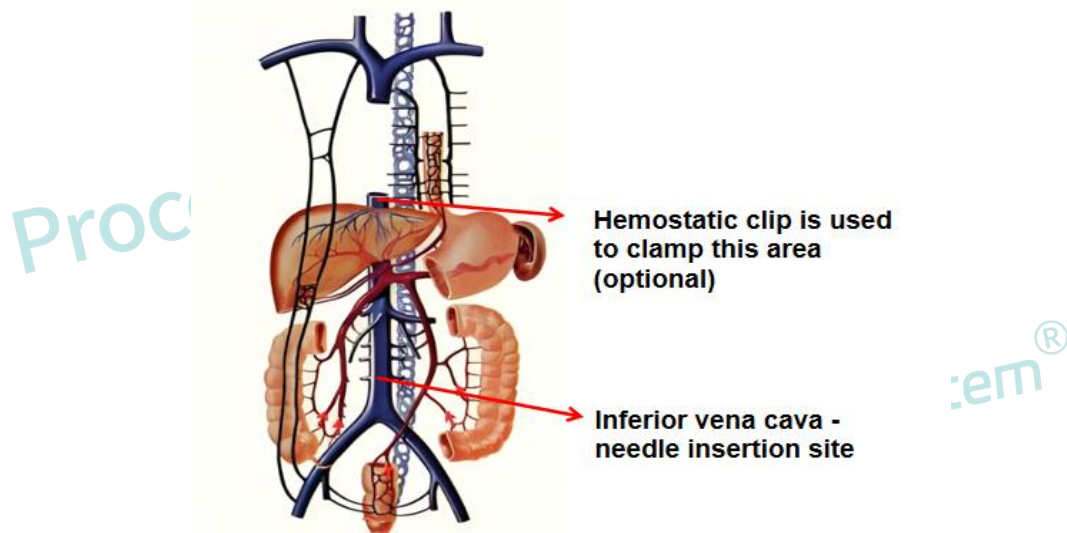

Figure 1. Portal vein system and perfusion needle site
Note: (Optional Operation) After incising the abdominal diaphragm, proceed to incise the thoracic diaphragm along the upper edge of the liver. Find the inferior vena cava above the liver and clamp the vein at this site with a hemostatic clip (Figure 1). This step allows the subsequent digestive solution to fully flow through the liver tissue and exit through the hepatic portal vein, improving digestion efficiency. If it is not possible to accurately locate the inferior vena cava above the liver and promptly complete the subsequent steps, please ignore this step.
① **Peristaltic Pump Perfusion**
- a. Lift up the outer lobe of the mouse liver using Curved Forceps 1 and push the intestinal tissue to the right, exposing the inferior vena cava and hepatic portal vein of the mouse (a pipette tip can be placed under the mouse to fully expose the inferior vena cava). Take a perfusion needle (exhaust all air) and connect the inlet end of it to a centrifuge tube or bottle containing Pre-perfusion Solution For Mouse Hepatic Parenchymal Cells. The needle should be parallel to the inferior vena cava, with the oblique plane of the needle pointing upwards. Insert it into the inferior vena cava (the injection position is shown in Figure 1), and insert the needle tip above the bifurcation of the blood vessel. Fix the perfusion needle and use other auxiliary materials (such as syringe needles) to keep the needle still and avoid puncturing the blood vessel. Gently pull out the needle core, then the blood in the blood vessel can be seen to flow out with the needle core. At this time, the outer tube is left in the blood vessel for perfusion.
② **Manual Perfusion**
- e. Lift up the outer lobe of the mouse liver using Curved Forceps 1 and push the intestinal tissue to the right, exposing the inferior vena cava and hepatic portal vein of the mouse (a pipette tip can be placed under the mouse to fully expose the inferior vena cava). Take the perfusion needle (exhaust all air) which has been connected to the syringe containing Pre-perfusion Solution For Mouse Hepatic Parenchymal Cells. The needle should be parallel to the inferior vena cava, with the oblique plane of the needle pointing upwards. Insert it into the inferior vena cava (the injection position is shown in Figure 1), and insert the needle tip above the bifurcation of the blood vessel. Fix the perfusion needle and use other auxiliary materials (such as syringe needles) to keep the needle still and avoid puncturing the blood vessel. Gently pull out the needle core, then the blood in the blood vessel can be seen to flow out with the needle core. At this time, the outer tube is left in the blood vessel for perfusion.